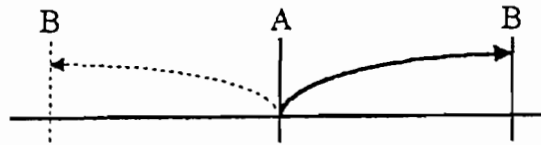

FIG.1
- a. At first, select the S7 switch to surface mode (  ). Then choose S5 switch to the manual operating mode (  ). After that, use S6 switch (for rapid forward or backward) to move column to the first grinding edge of work piece-- "A" (please refer to FIG.1).